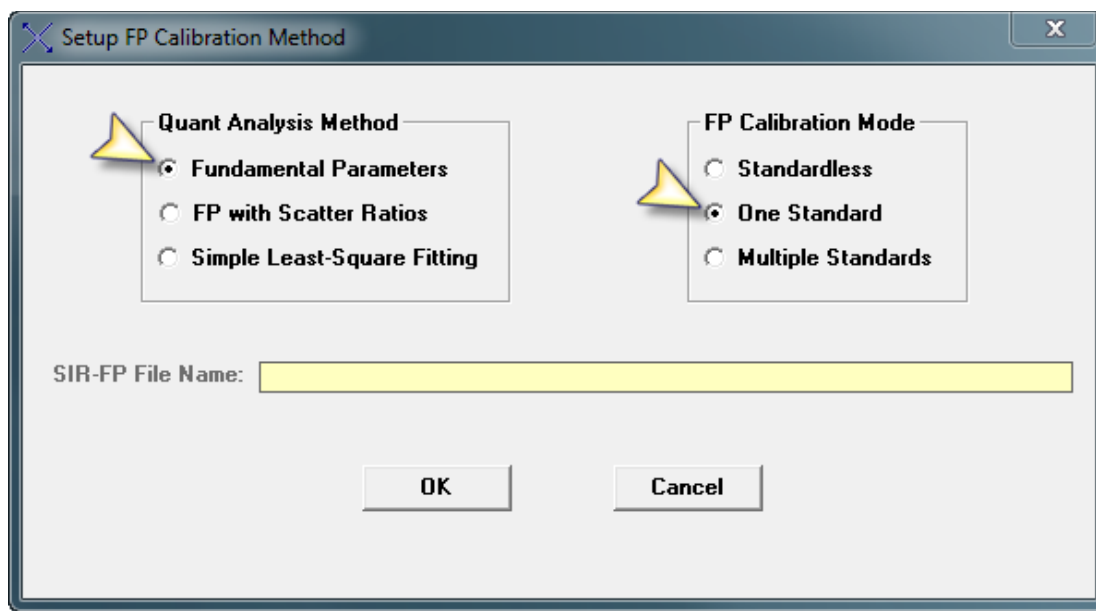

Figure 3. Setup FP Calibration Method. Select “Fundamental Parameters” for the “Quant Analysis Method” and “One Standard” for the “FP Calibration Mode”.
5. Then from the XRS-FP Expert Panel: Select **Setup** -> **Quant**. This will bring up the "Setup FP Calibration Method" dialog shown below in Figure 3. Select the radial buttons for "Fundamental Parameters" with "**One Standard**". Then click OK. Note it is important to select single standard as the "FP Calibration Mode" as each standard used for the MLSQ calibration will first be processed as a single standard and only later will these files be merged.